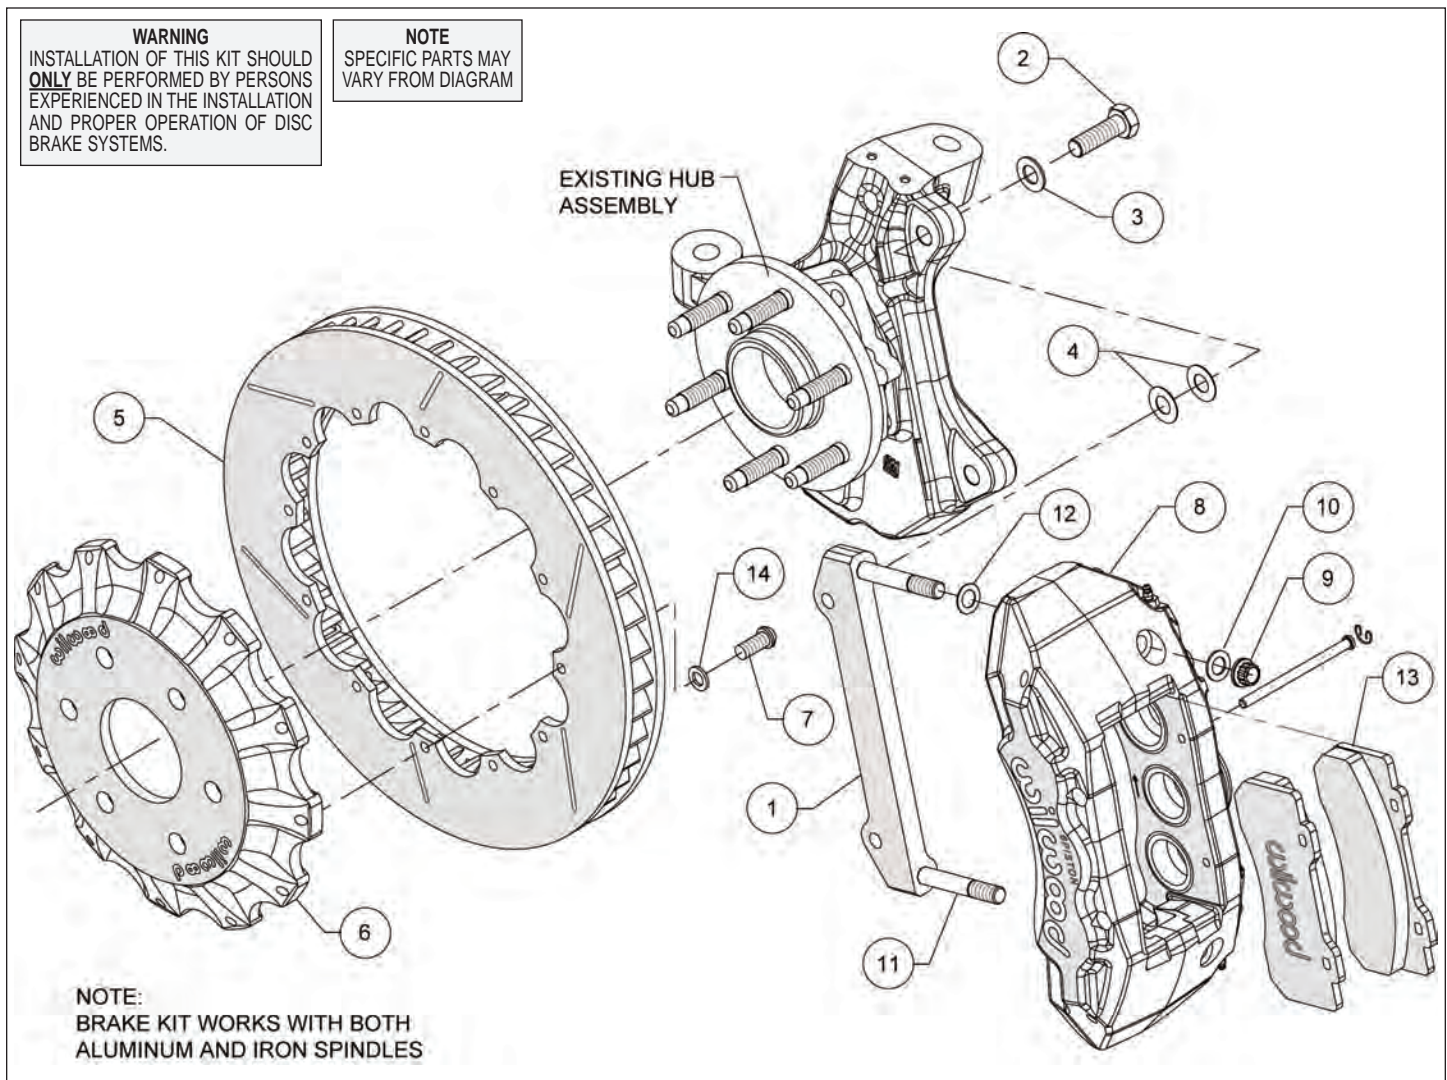

Figure 1. Typical Installation Configuration
Assembly Instructions (numbers in parenthesis refer to the parts list and Figure 1 on the preceding pages):
- The caliper mount bracket (1) should initially be installed with clean, dry threads on the mounting bolts. Orient the bracket as shown in Figure 1 and Photo 1, and install using bolts (2) and washers (3). Initially place two .029 thick shims (4) on each bolt between the bracket and upright, Figure 1. Temporarily tighten the mounting bolts. **NOTE:** *The bracket must fit squarely against the mount bosses on the upright.* Inspect for interference from casting irregularities, machining ridges, burrs, etc. Later, after the caliper alignment has been checked, the mount bolts will be secured using red *Loctite*[®] 271.
- Orient the rotor (5) and the hat (6) as shown in Figure 1 and Photo 2. Attach rotor to hat using bolts (7) and washers (14). Using an alternating sequence, torque to 25 ft-lbs.
- NOTE:** *This kit contains distinct right and left hand calipers that must be mounted in a specific direction, as described below.* Lubricate the caliper mounting studs (11) with lightweight oil. Initially place one .032" thick shim (12) on each stud as shown in Figure 1 and Photo 3. Mount the caliper (8) onto the bracket (1) using lock nuts (9) and washers (10), Figure 1. Ensure that the caliper is mounted so that the largest pistons are at the rotor exit end of the caliper, in relation to the direction of rotor rotation. Temporarily tighten the lock nuts and view the rotor through the top opening of the caliper. The rotor should be centered in the caliper, Photo 4. If not, adjust by adding or subtracting shims (4) between the bracket and the upright. Always use the same amount of shims on each of the two mounting bolts. Once the caliper alignment is correct, remove the bracket mounting bolts (2) one at a time, apply red *Loctite*[®] 271 to the threads, and torque to 77 ft-lb.